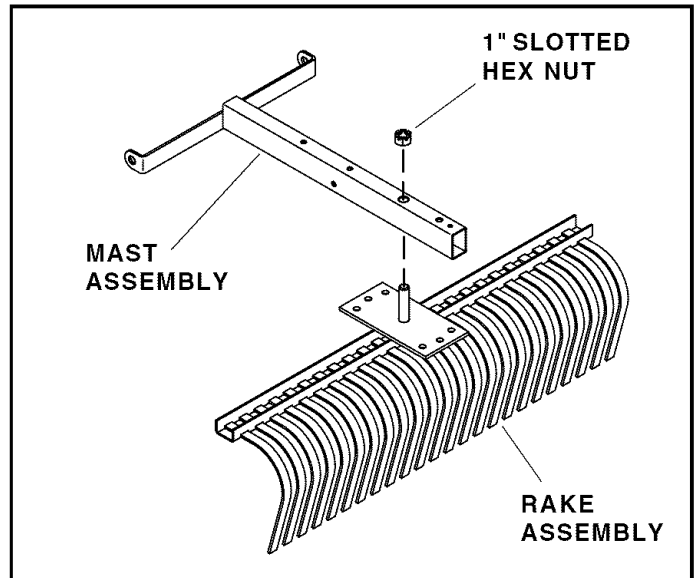

FIGURE 2
2. Attach the mast assembly to the rake assembly by sliding the mast assembly down over the threaded stud on the rake assembly. Put the forked end of the mast assembly on the front side of the rake assembly. Install a 1" slotted hex nut on the end of the stud and tighten until it is just snug. Back the nut off until the first slot aligns with the hole in the threaded stud or until the mast assembly can pivot on the rake assembly. See figure 2.